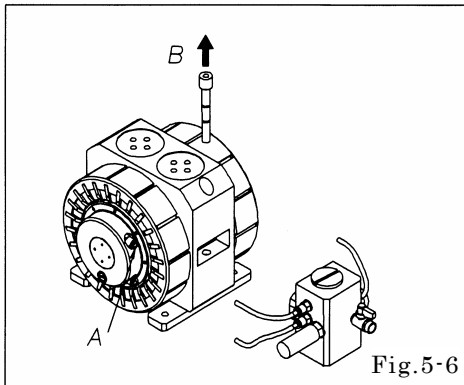

Fig.5-6
- Remove air tube from fitting. [Fig.5-6]